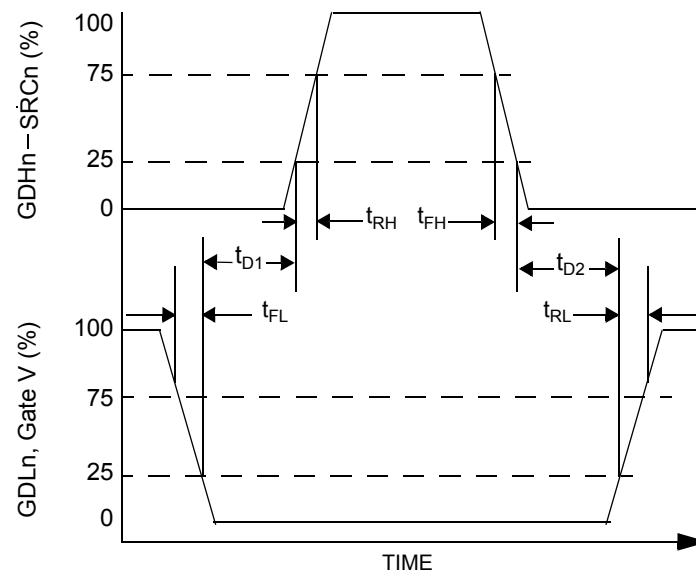

Figure 4. Shoot-Through Suppression
- See Figure 4, page 9.
PWM, CL, OT, OV, LSE, and HSE terminals. Note that the drivers are enabled $3 \text{ }\mu\text{s}$ after the PWM edge. During complimentary chop mode the high-side and low-side drives are alternatively enabled and disabled during the PWM cycle. To prevent shoot-through current, the high-side drive turn-on is delayed by t_{D1} , and the low-side drive turn on is delayed by t_{D2} (see Figure 4, page 9).